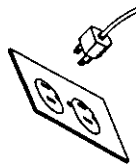

Figure 1-1
1. **UNPLUG** garage door opener. (Figure 1-1)